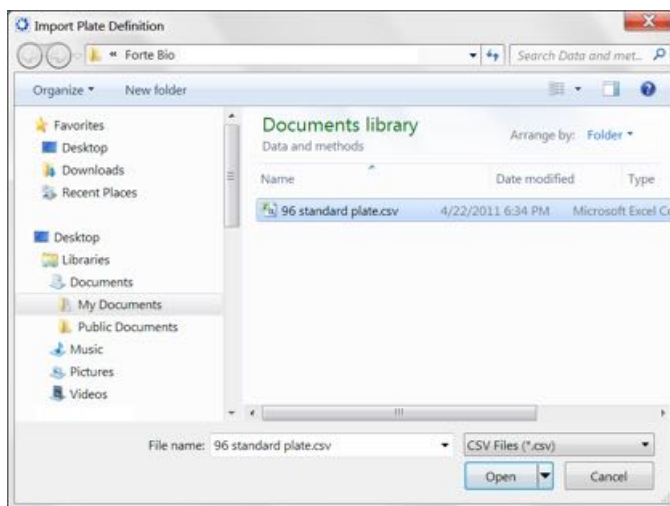

Figure 9-22: Import Plate Definition Window
2. In the **Import Plate Definition** window (see Figure 9-22), select the plate definition (.csv), and click **Open**.